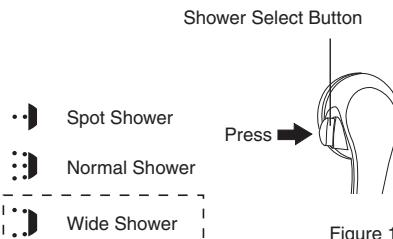

Figure 1
- Step 1 : For DH-3VS1, DH-3VP1, DH-4VS1, DH-4VP1, DH-6VS1: Select Wide Shower mode on the Shower Head using the Shower Select Button (refer Figure 1).
- Step 5 : Gradually turn On the Main Water Valve and adjust the splashing height (H) of the shower.